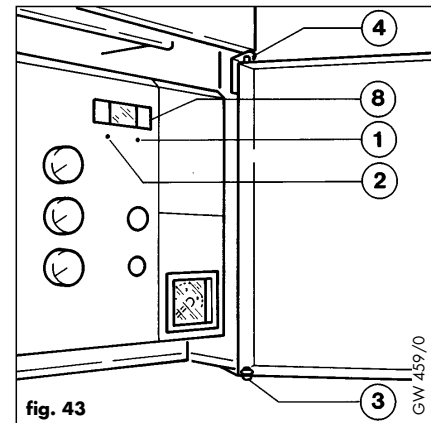

fig. 43
The boiler display (8, fig. 43) normally indicates the primary flow temperature. Whilst this display is showing the boiler has internally self checked and is operating normally. However, if desired, a functional check of the boiler DHW and CH operation may be carried out using the status mode of the built in diagnostics.
- Enter status mode by pushing the right hand diagnostic button once, e.g. with the tip of a ballpoint pen (1, fig. 43). The display should now show 'S.0'